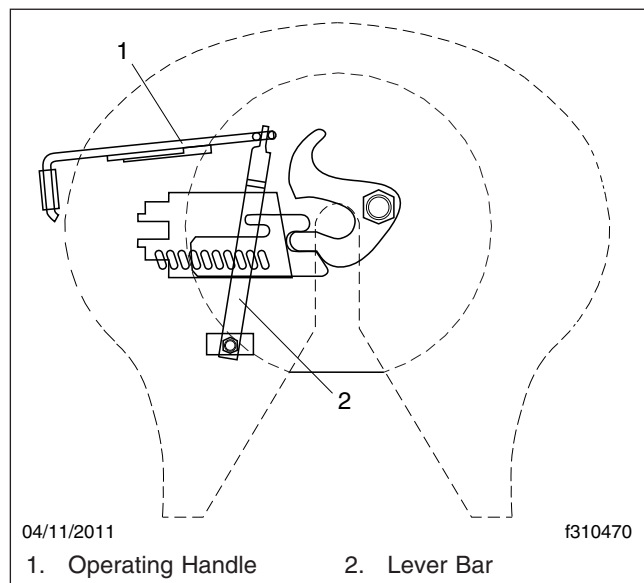

Fig. 6, Lever Bar and Operating Handle Alignment
5. The lever bar and operating handle must be in proper alignment. See **Fig. 6**. Compare the lever